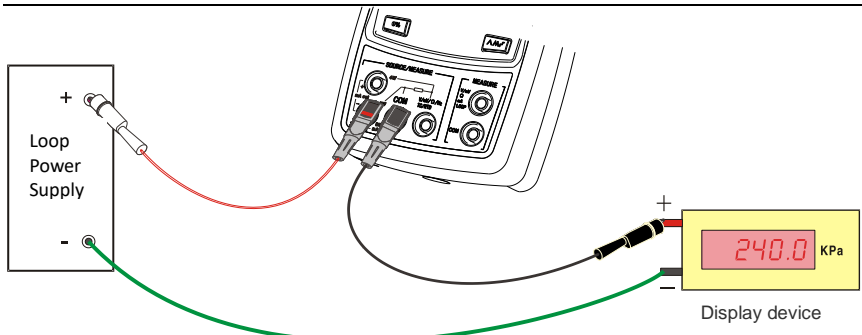

Figure 4.4-1
1. Connect the 24 V loop power source as shown in Figure 4.4-1.